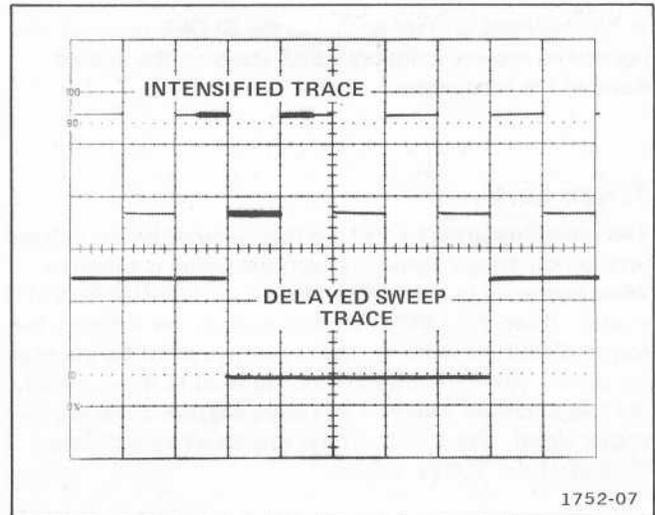

Fig. 2-6. Typical alternate sweep display.
**ALTERNATE SWEEP DISPLAY.** To select the Alternate display mode, pull out the DLY'D Time/Division knob and rotate it to a desired sweep rate faster than the TIME/DIV OR DLY TIME switch setting. In this mode, both an intensified sweep and a delayed sweep are displayed (see Fig. 2-6).